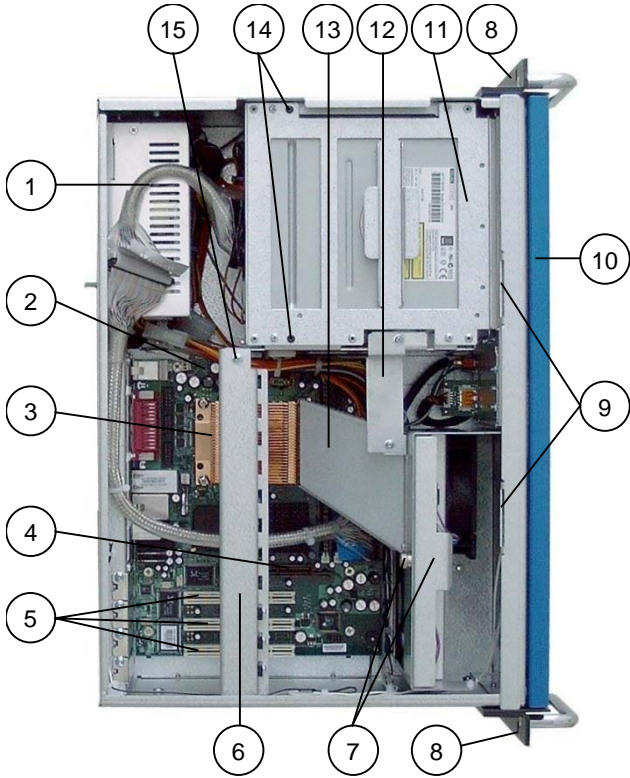
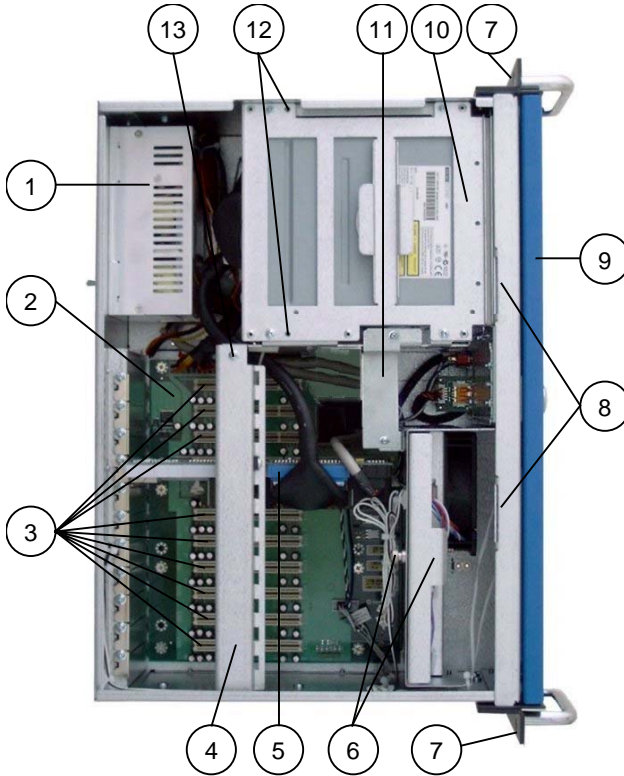

Fig 5: KISS Short, opened rackmount version (with motherboard)
Fig.6: KISS Short, opened desktop version (with SBC)
Before the system is put for the first time into operation (before mounting / installation into an industrial cabinet), you have to open the unit as described in the "Accessing Internal Components" section and to remove the drive locking screws (fig. 5, 5a, pos. 14 and fig. 6, 6a pos. 12).
Legend for figures: 5 and 5a
Legend for figures: 6 and 6a: